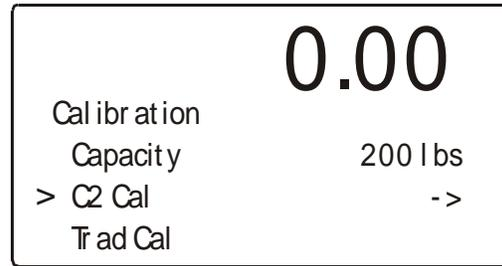

FIG. 2-5 CALIBRATION/C2 CAL
Step 10. Press the Enter Button to set the entry. Press the "-" button until the cursor is in front of "C2Cal". See Fig. 2-5)